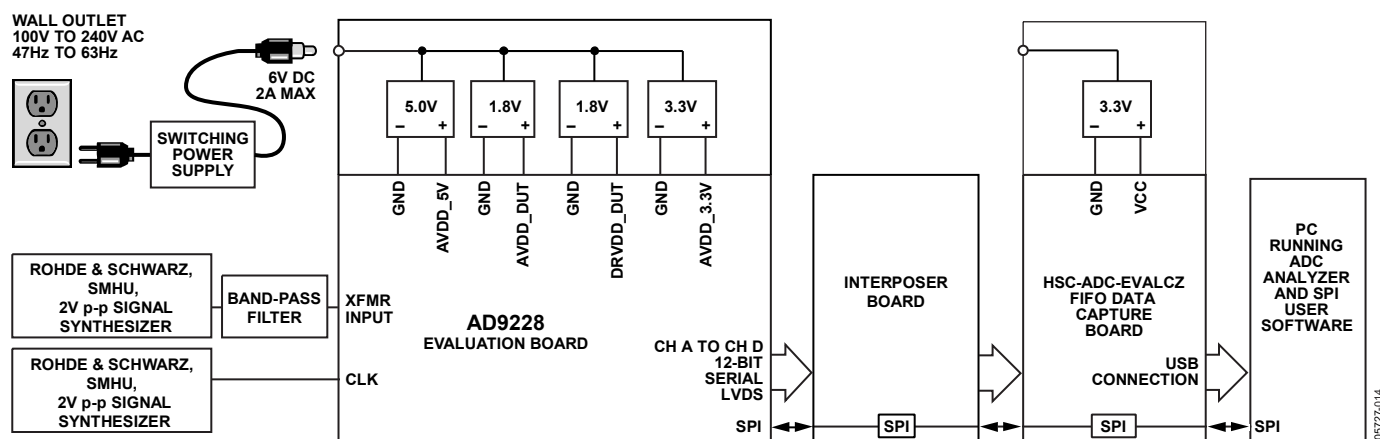
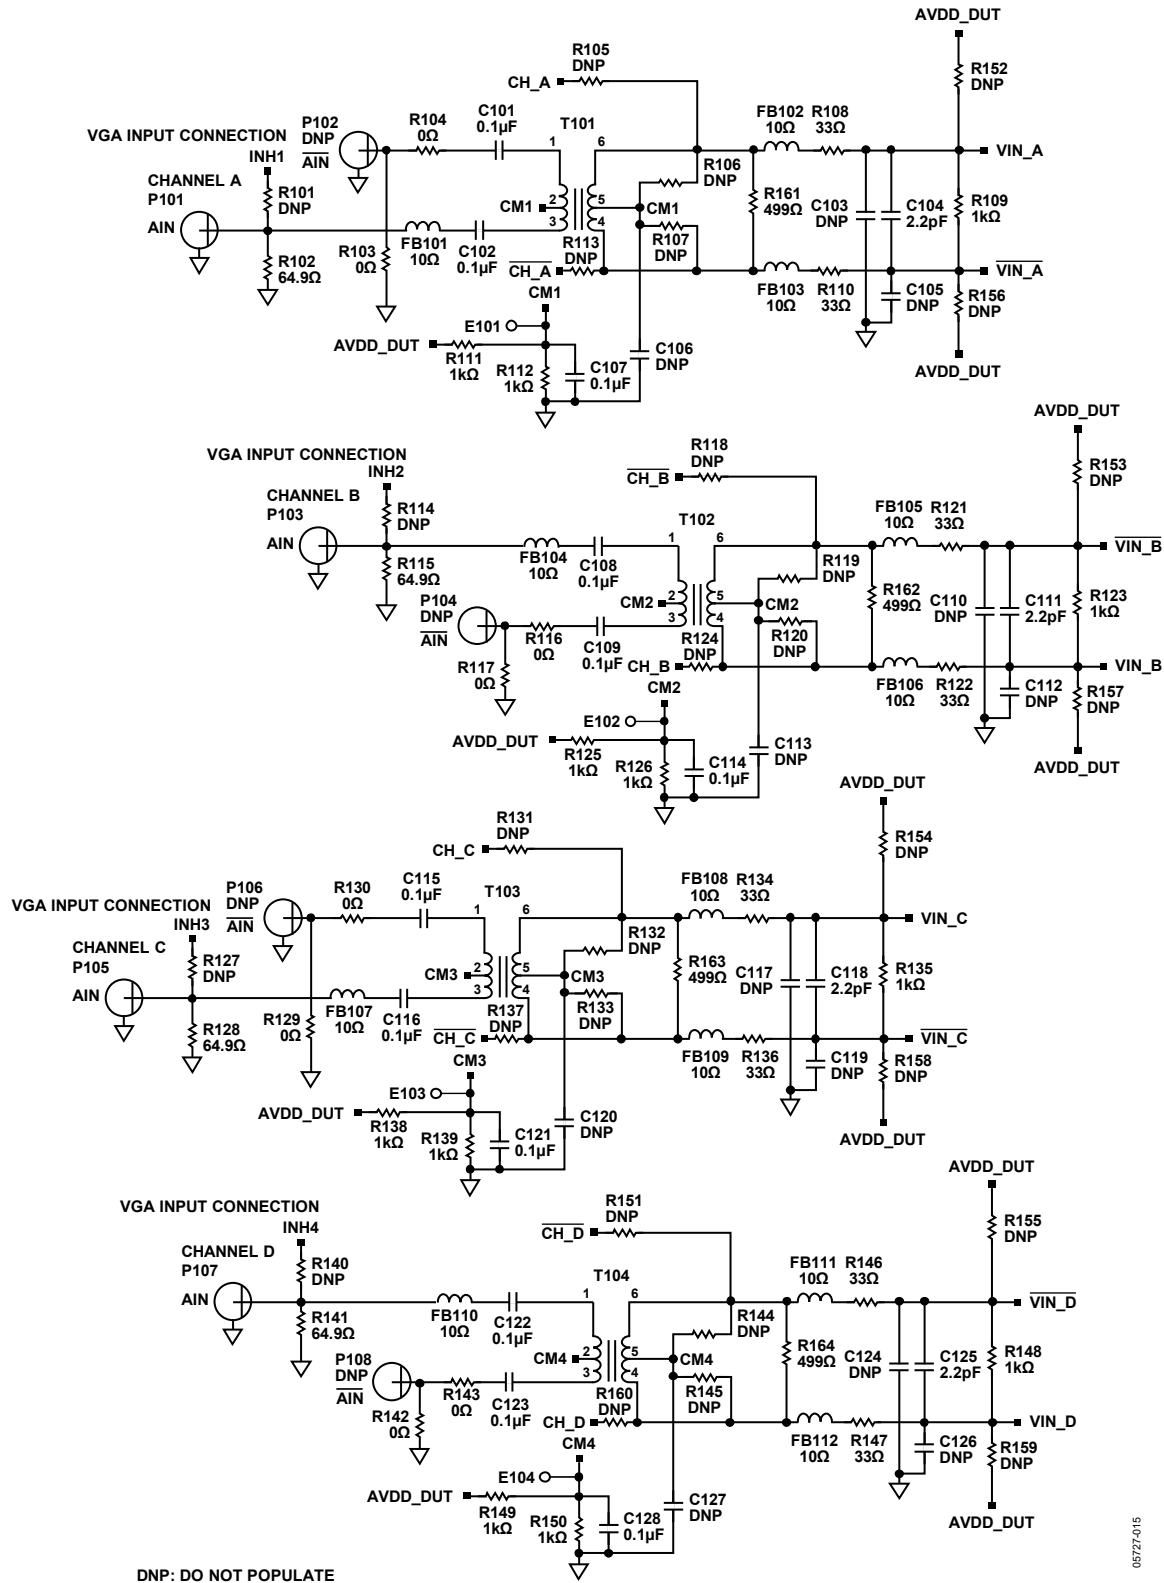

Figure 71. Evaluation Board Connection
Figure 73. Evaluation Board Schematic, DUT Analog Inputs
The AD9228 evaluation board provides all of the support circuitry required to operate the ADC in its various modes and configurations. The converter can be driven differentially using a transformer (default) or an AD8332 driver. The ADC can also be driven in a single-ended fashion. Separate power pins are provided to isolate the DUT from the drive circuitry of the AD8332. Each input configuration can be selected by changing the connection of various jumpers (see Figure 73 to Figure 77). Figure 71 shows the typical bench characterization setup used to evaluate the ac performance of the AD9228. It is critical that the signal sources used for the analog input and clock have very low phase noise ( $<1$  ps rms jitter) to realize the optimum performance of the converter. Proper filtering of the analog input signal to remove harmonics and lower the integrated or broadband noise at the input is also necessary to achieve the specified noise performance.
See Figure 73 to Figure 81 for the complete schematics and layout diagrams demonstrating the routing and grounding techniques that must be applied at the system level.
- **D + x, D - x:** If an alternative data capture method to the setup shown in Figure 73 is used, optional receiver terminations, R206 to R211, can be installed next to the high speed backplane connector.